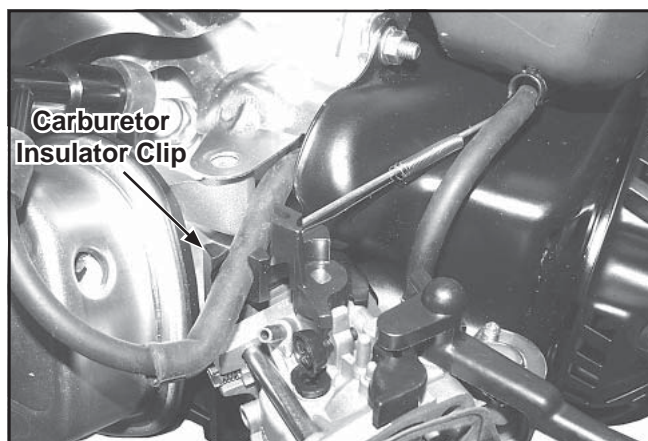

Figure 11-70. Spark Plug Wire Routing.
1. Position the spark plug lead in the molded clip in the carburetor insulator. See Figure 11-70.